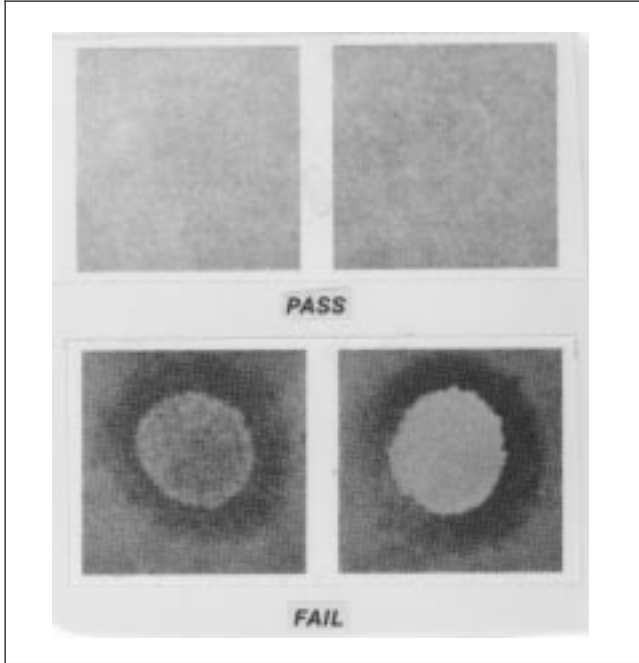

Figure 1 Chlorides and/or Bromides Test Results
5.4 Evaluation Carefully examine each test sheet for possible color change. A change to off-white or yellow-white indicates the presence of chlorides or bromides (see Figure 1).